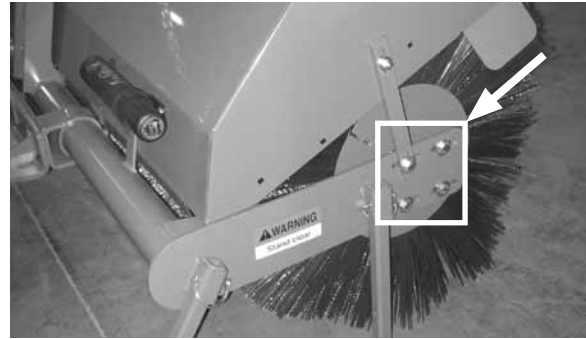

Figure 27
1. Loosen 4 carriage bolts holding each bearing assembly (Figures 27 and 28).